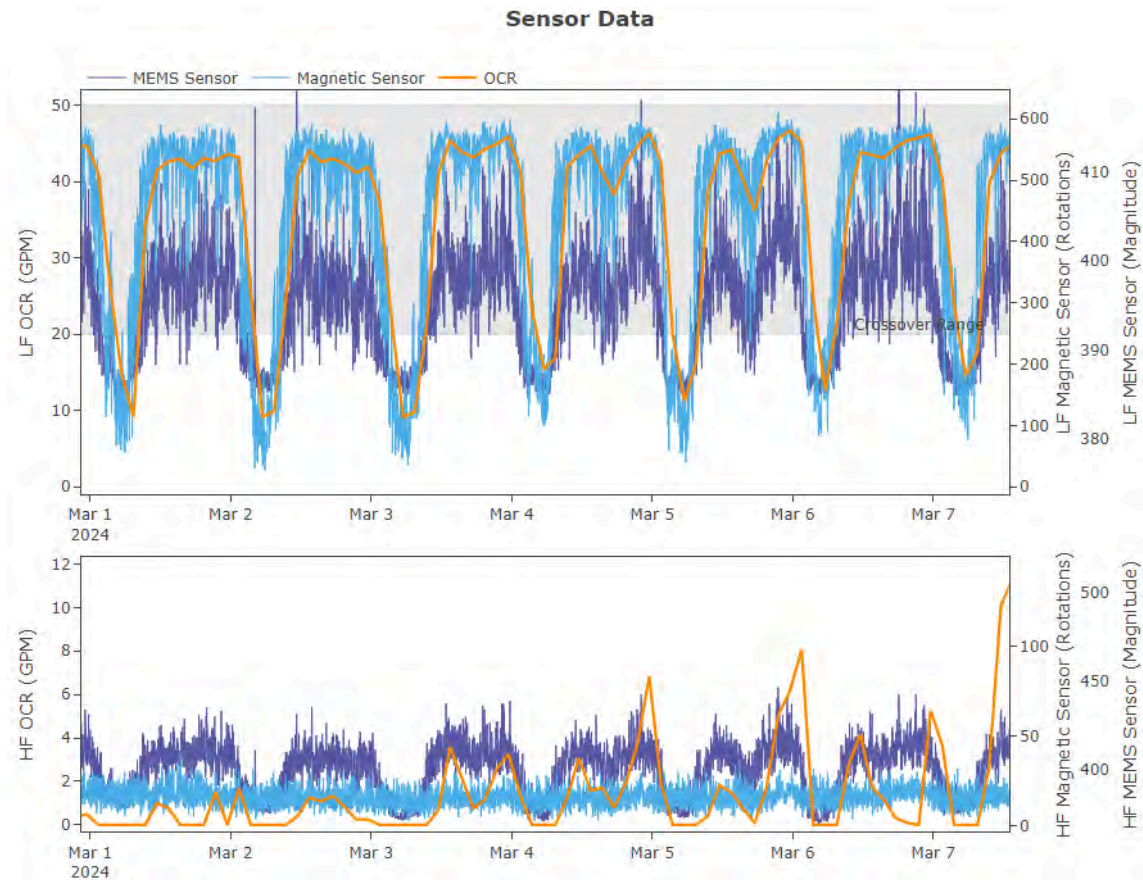

Figure 33 - No Problem Found meter
- This Sensus compound meter (Figure 33), previously had partially closed city and customer side valves. Now that Fullerton staff have completely opened both valves, the low flow and high flow side meters are operating within meter manufacturers specifications, and this meter is now identified as 'No Problem Found'.